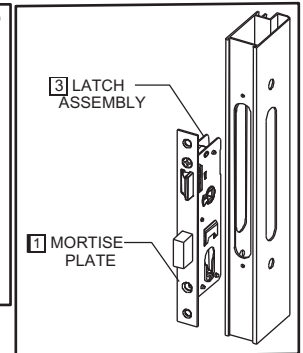

FIGURE 4
C. Insert latch assembly into end of door panel per Fig. 4. Do NOT fasten at this time, fastening will be completed in Step 2F.